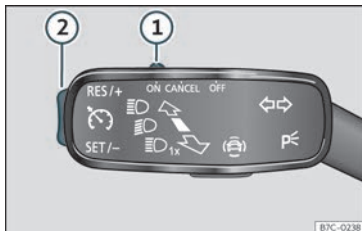

Fig. 155 On the turn signal lever: controls for operating the GRA.
- Move the control»» Fig. 155 ① to ON.
- Press button»» Fig. 155 ② in area SET/-.
- Move the control»» Fig. 155 ① to CANCEL or step on the brake.
- Press button **>>> Fig. 155 ②** in area **RES/+**.
While the GRA is set, the stored speed can be adjusted with button **>>> Fig. 155 ②**:
- To increase in increments of 1 km/h (1 mph) briefly press button **>>> Fig. 155 ②** in the area **RES/+**.
- To increase the speed without interruption, keep button **>>> Fig. 155 ②** pressed down in the area **RES/+**.
- To reduce in increments of 1 km/h (1 mph) briefly press button **>>> Fig. 155 ②** in the area **SET/-**.
- To reduce the speed without interruption, keep button **>>> Fig. 155 ②** pressed down in the area **SET/-**.
- Move control **>>> Fig. 155 ①** to **OFF**.